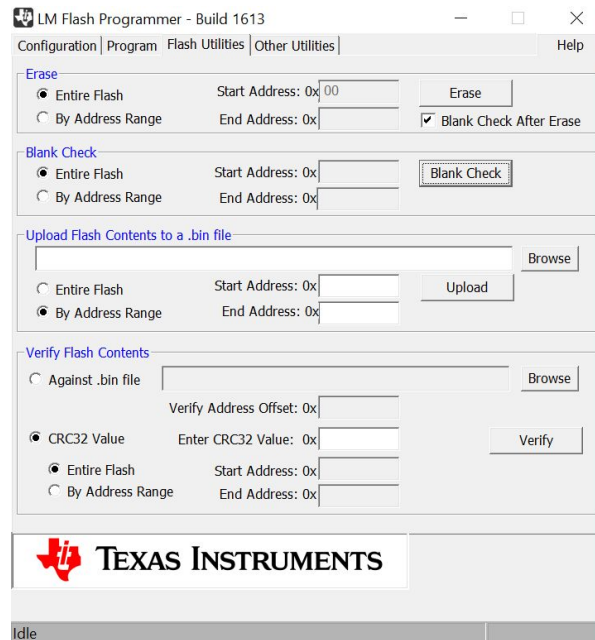

Figure 7. LM Flash Programmer Flash Utilities menu
4. Once these settings are configured, go to the Flash "Other Utilities" tab, check the "Blank check after erase" box and press erase. This step is shown in Figure 7 below. You should see a loading bar at the bottom of the window. Once this is complete, the board should be in working order.